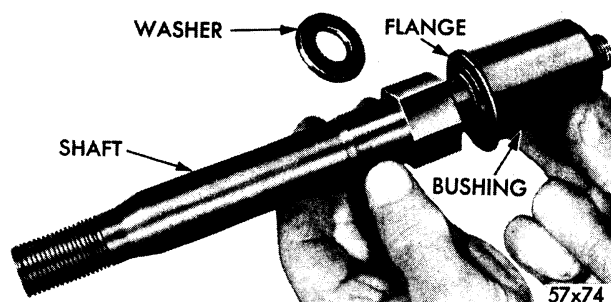

Fig. 15—Removing or Installing Lower Control Arm Pivot Shaft Bushing
9. LOWER CONTROL ARM PIVOT SHAFT BUSHING—REPLACEMENT (FIGS. 15 and 16)